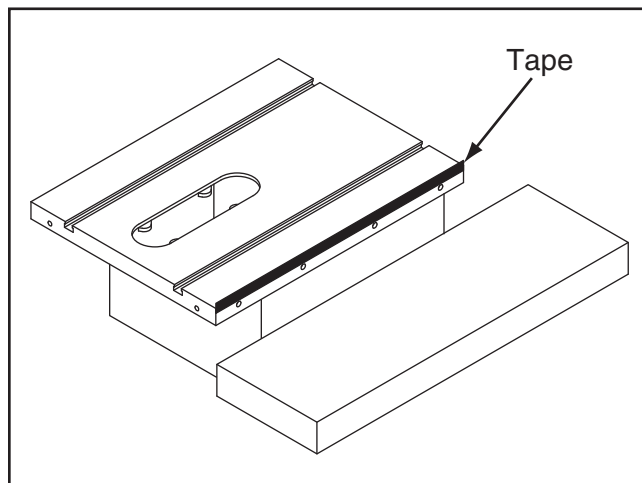

Figure 11. Shimming table down with masking tape.
- If outside edge of sliding table tilts up, use strips of masking tape along top edge of saw table to shim sliding table down (see **Figure 11**) and even with saw table from side to side.